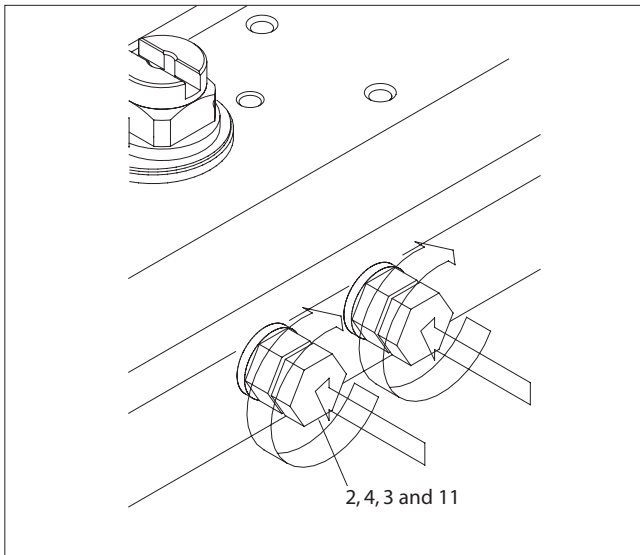

Figure 17.
4. Assembly of Stop Screws (2) and Stroke Adjustment. (Figure 17):
- A. Insert the nut (4), washer (3), and o-ring (11) onto the stop screws (2).
- B. Screw the stop screws (2) into the body (50).
5. External Travel Stop Adjustment, (Figure 17):